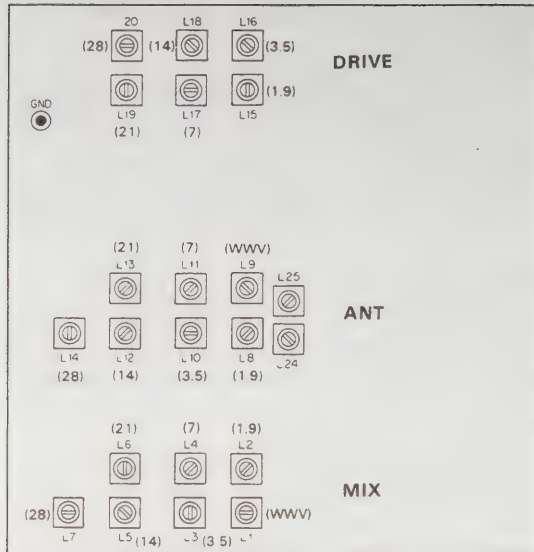
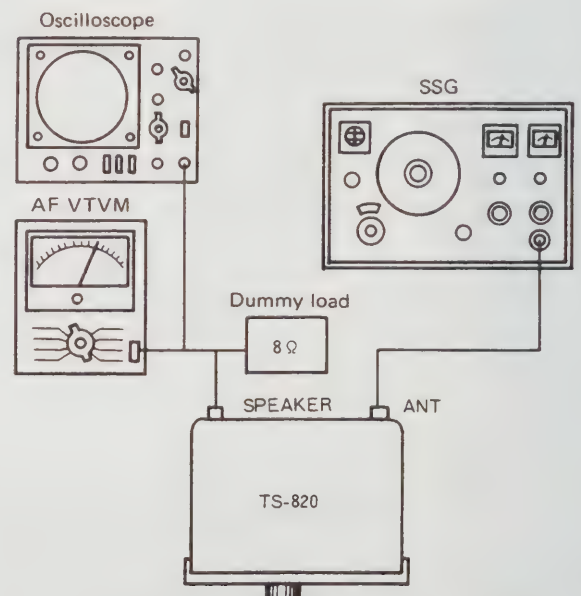

Fig. 23 Coil pack unit
Fig. 26 Adjustment of IF trap coil
Apply SSG output (or marker signal) at 60 dB to the antenna terminal and adjust the coil pack unit (X44-1140-00) in the following procedure of bands for maximum AF output (S meter reading) and maximum sensitivity. Reduce the SSG output suitably as the sensitivity increases (refer to Table 1, Fig. 23).
- 1) Make connection as shown in Fig. 26, and adjust receiving sensitivity at maximum. Then, while applying a signal of 8830 kHz at approx. 100 dB from SSG, adjust L24 and L25 in the coil pack unit (X44-1140-00) alternately and repeat the same procedure two or three times. Until S meter reading becomes minimum. When S meter pointer does not deflect, make adjustment until AF output becomes minimum (refer to Fig. 23 "Coil pack unit").